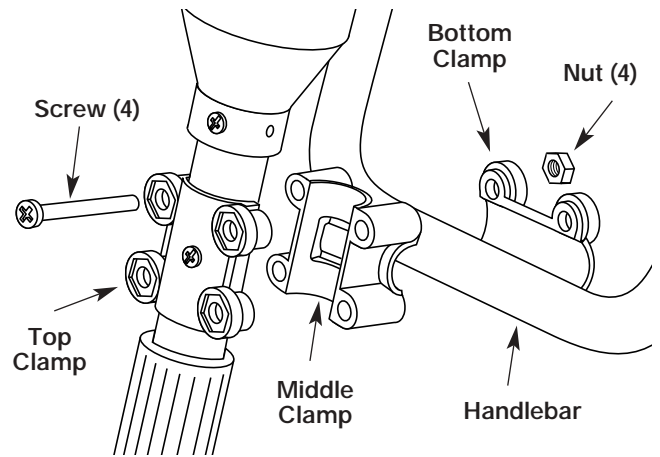
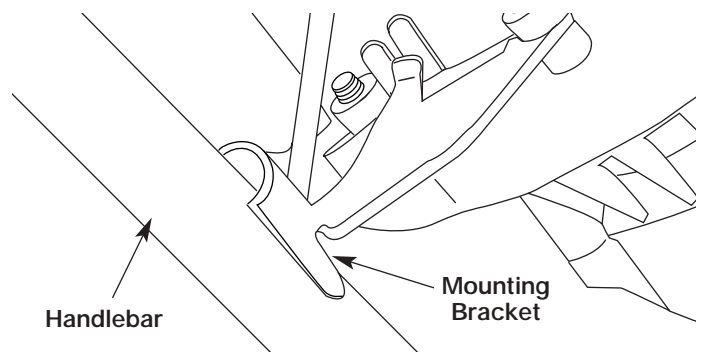

Figure 5
Figure 6
2. Place the handlebar between the bottom and middle clamp pieces. See Figure 5.
4. One at a time, hold a hex nut in the bottom clamp recess with a finger and install a screw through the clamp assembly. Start screw with a large Phillips screwdriver. Repeat this process with the other three (3) nuts and screws. Do not tighten until you make the handle adjustment.
5. Position the two (2) handlebar clamps near the top of the handlebar, with one clamp positioned on each side. Swing the handlebar up until it sets to the outside of the two mounting brackets on the engine. See Figure 6.